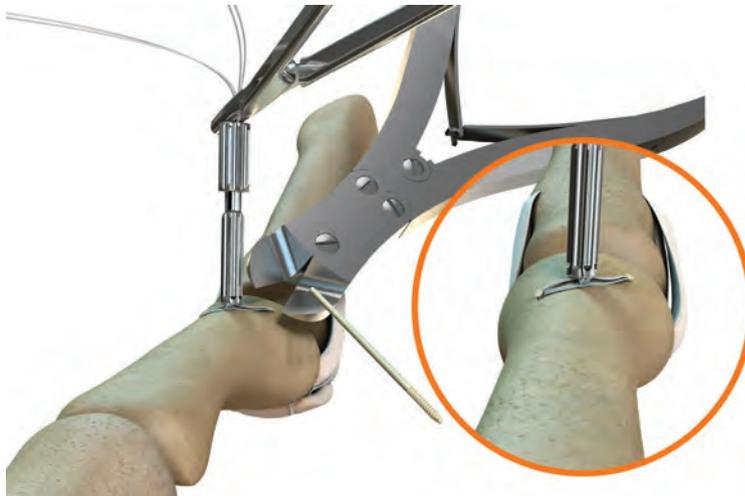

Figure 25
8. Insert the interference wire's remaining tip into the remaining bone tunnel. Trim the wire to be flush with the bone (Figure 25).